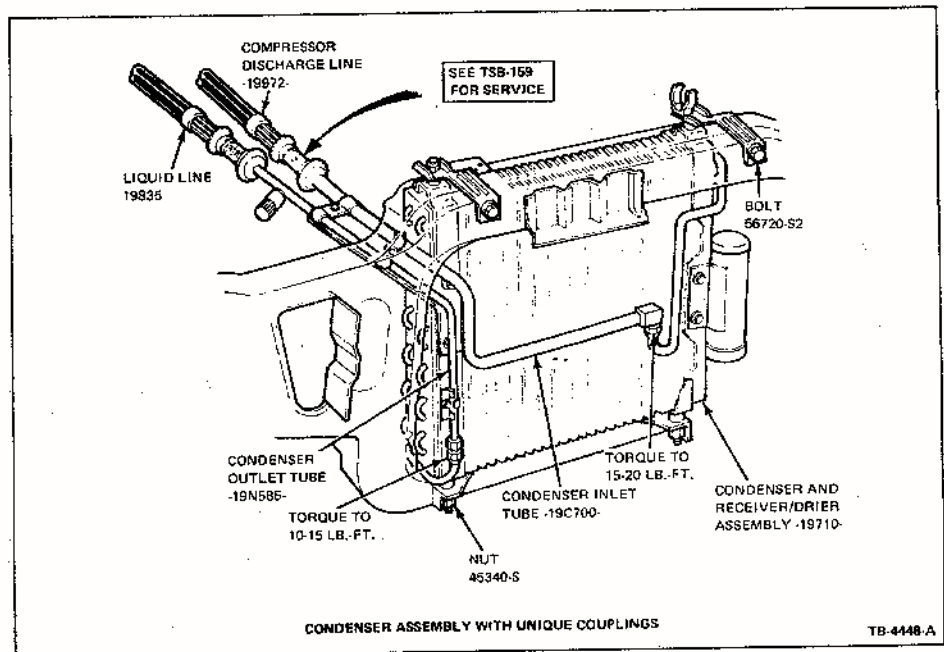

Figure 13 — Article No. 3211-S
3. To replace the liquid line, disconnect the line at the lower right corner of the condenser (Figure 13) and remove the liquid line. Cap the liquid line connection to the condenser.
3. Disconnect the liquid line from the lower right corner of the condenser (Figure 13), cap the liquid line, and remove the liquid line from the condenser.
4. Disconnect the compressor discharge line at the left center of the condenser (Figure 13), cap the discharge line, and remove the discharge line from the condenser.
9. Working under the vehicle, remove two nuts retaining the condenser lower mounting studs to the lower mounting brackets (Figure 13).
10. Remove two bolts attaching the condenser upper mounting brackets to the radiator support (Figure 13).
2. Install two nuts to retain the condenser lower mounting studs to the lower mounting brackets (Figure 13).
3. Install two bolts to attach the condenser upper mounting brackets to the front of the radiator support (Figure 13).